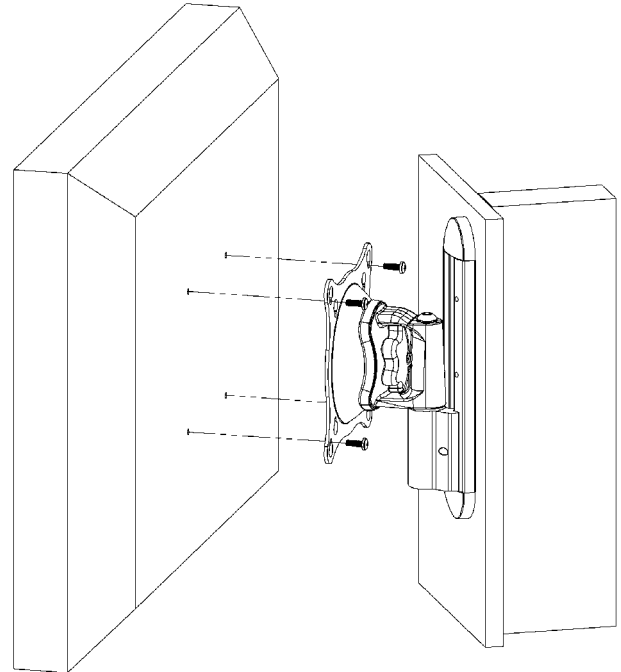

Figure 5. Flush Mounting
- D. Matching the hole pattern on your display with the hole pattern on the mount (see Figure 5), hang the mount from the two screws started in Step A.